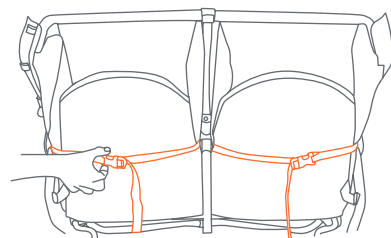
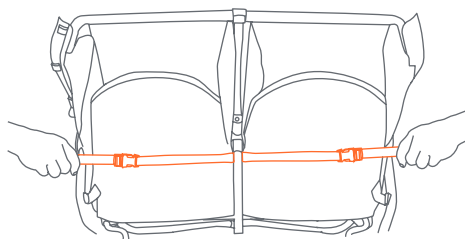

Fig. 9a
Fig. 9b
- 9) • **To recline the seat:** loosen the strap through the buckle and adjust to the required recline position (Fig. 9a). To place the seat back in a more upright position, press upward on the seat back with one hand while pulling the strap through the buckle with the other (Fig. 9b).